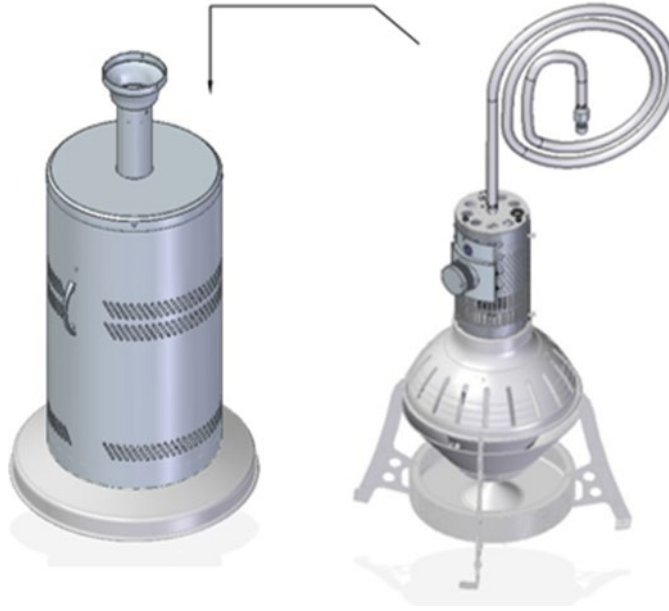

Figure 3: Heater Base and Heater Head Assemblies
1. Disassemble shipped parts and separate the hardware packages. Start with the heater base unit and the heater head assembly as shown in Figure 3.